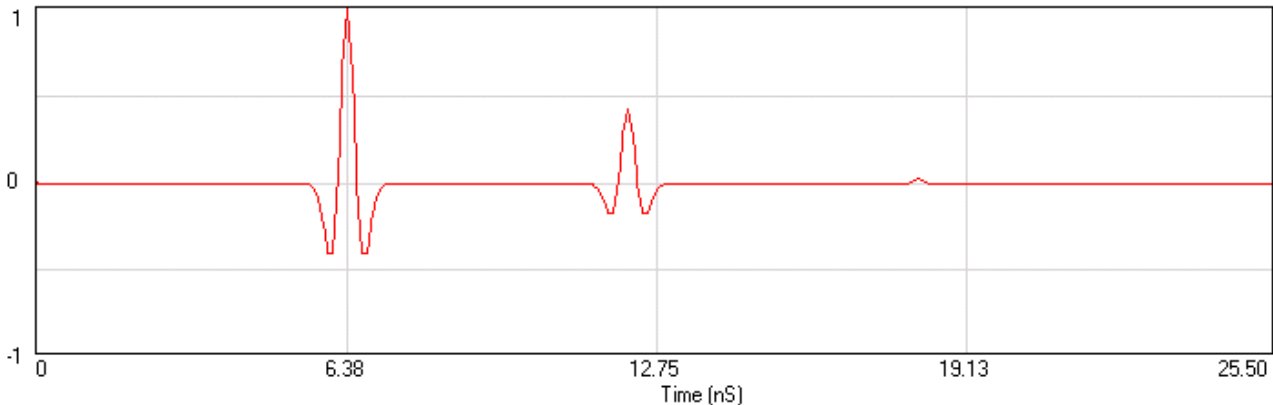

Fig.9 Simulation of a microwave antenna penetrating a layer with high conductivity
5. Press the simulate button and see what happened (fig.9). The third peak is now barely visible despite the fact that the contrast between the second layer and the third one hasn't changed at all. So, what happened? The conductivity of the second layer became so high that almost all the energy was dissipated in it and there was almost nothing left to overcome the thickness of the last layer and be reflected back.